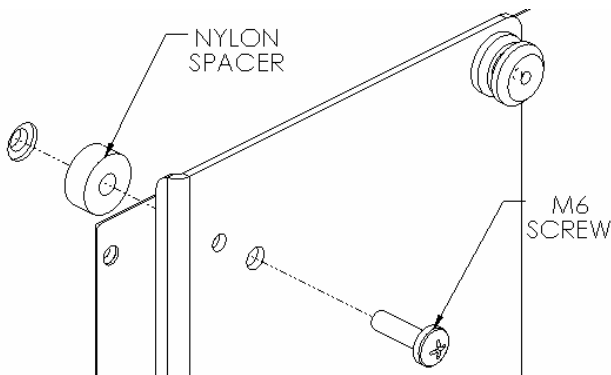
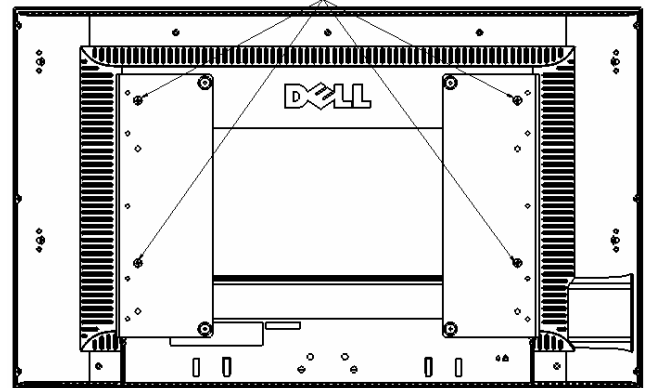

Figure 4
Figure 5
2. Place Nylon spacers on mounting holes, aligning hole pattern on brackets with pattern on back of LCD Display (see Figure 4 & Figure 5).